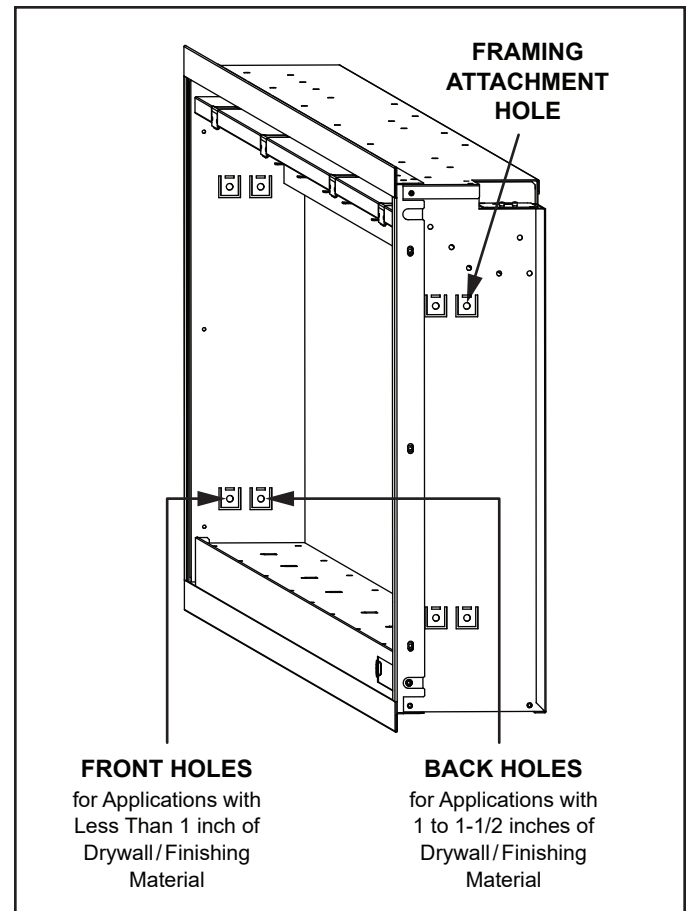

Figure 4.6 Framing Attachment Hole Locations
6. Attach the appliance to the framing with four (4) ST4X40 wood screws at the tabbed, framing attachment hole locations. See Figure 4.6.